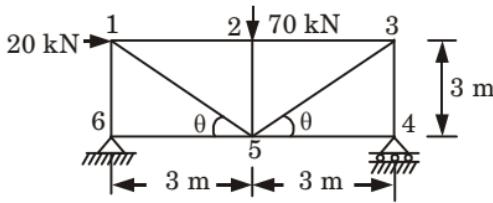

Fig. 1.
**Ans.****Given :** Plane truss shown in Fig. 1.**To Find :** Force in member.**1. Reaction at Supports :**